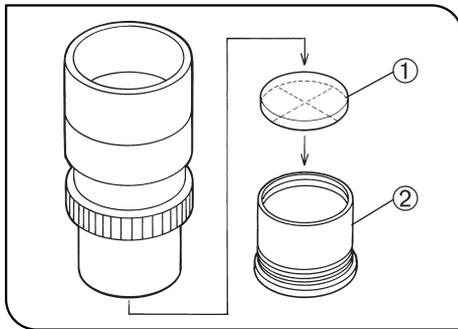

Fig. 20
4 Using Eyepiece Micrometer Disks (Fig. 20)
Following Fig. 20, unscrew the micrometer mounting frame ② from the eyepiece and place a micrometer disk ① into the mounting frame. The engraving on the micrometer disk should face downward into the micrometer mounting frame.